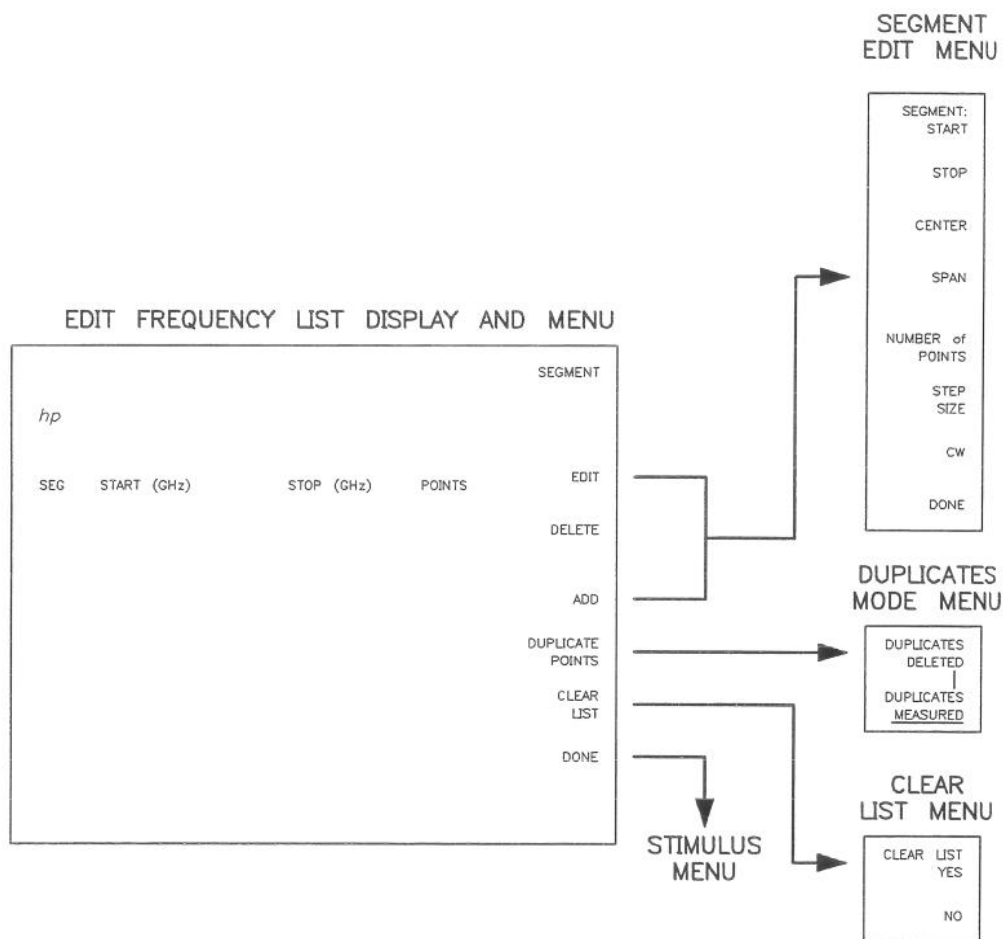

Figure 5-10. Frequency List Menu Structure
2. Press **STIMULUS** **MENU**, **MORE**, then **EDIT LIST**. The display appears as shown in Figure 5-10.